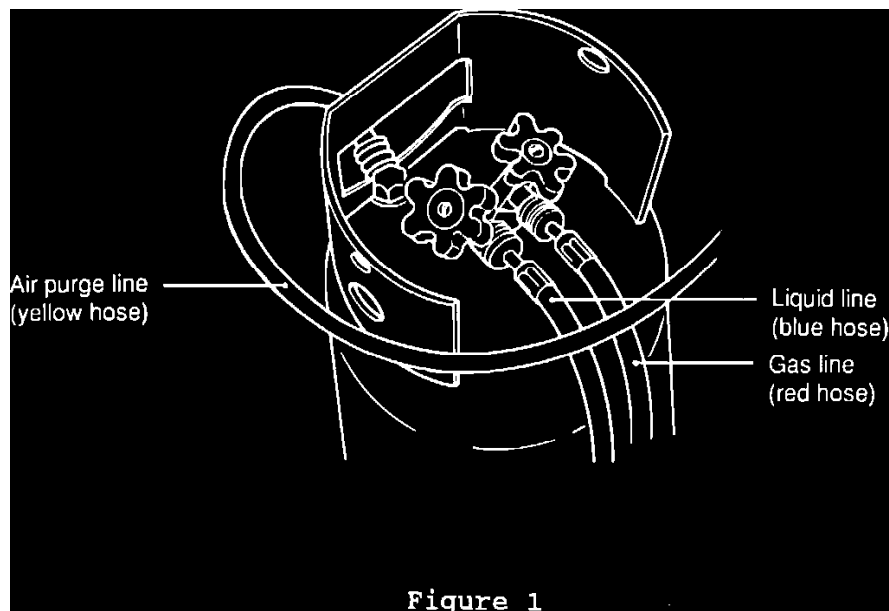

Figure 1
- ^ Attach the red hose from the back of the ACR-3 (Figure 1) to a vacuum pump.